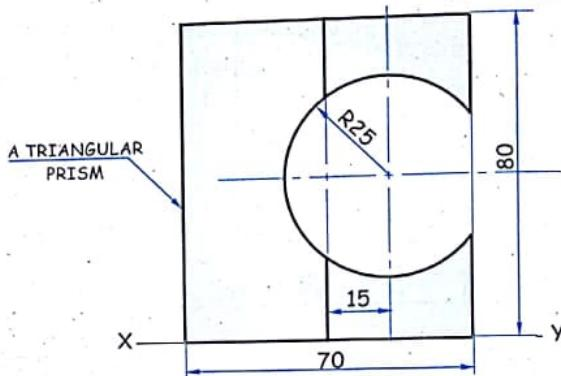

FIG. 12.65
2. Figure 12.65 shows the elevation of triangular prism of 70 mm side of base and 80 mm in height resting on its base on H.P. An open circular slot of 25 mm radius is cut through as shown. Draw the lateral surface development of the prism showing the slot in it.